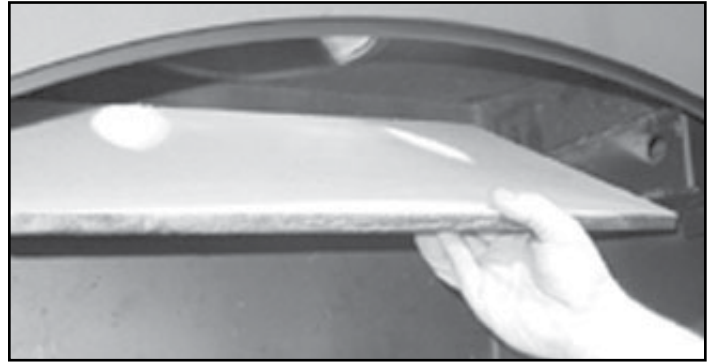

Figure 32.3 Removing Baffle (shown without ceramic blanket)
6. Slide fiber board baffle forward to front of fireplace and straight out through door. See Figure 32.3.